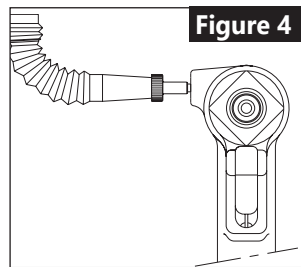

Figure 4
hold fill bottle at a right angle (90°) to it (Figure 4) to prevent drawing in air.
6. Stand tool upright. Hold the fill bottle at a right angle (90°) to the tool, and cycle the tool 20–30 times; watch for air bubbles escaping into the bottle. (Figure 4)